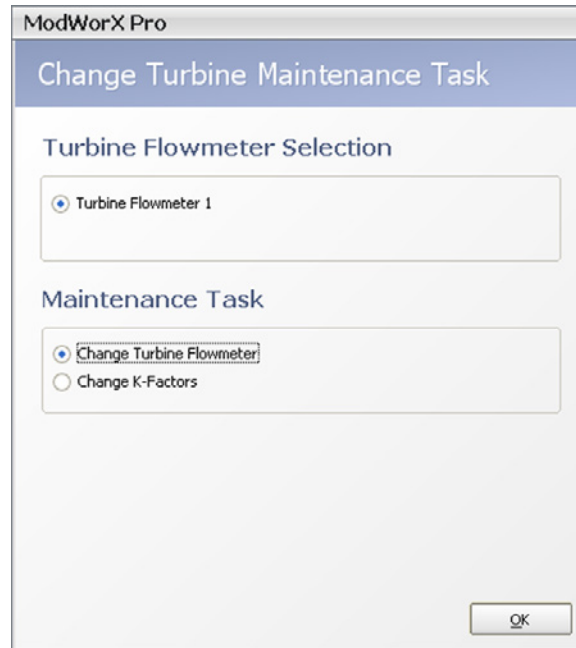

Figure 13.2
2. Click **Yes** at the Enter Maintenance Mode prompt to proceed. The Change Turbine Maintenance Task screen will appear (Figure 13.2, page 184).